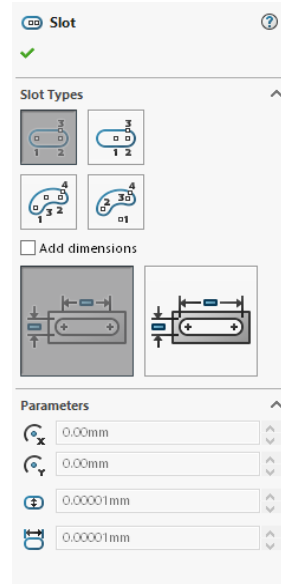

Figure 2-27 The Slot PropertyManager
5. Choose the **Straight Slot** button from the **Slot** flyout of the **Sketch CommandManager**; the **Slot PropertyManager** is displayed on the left of the drawing area, refer to Figure 2-27.